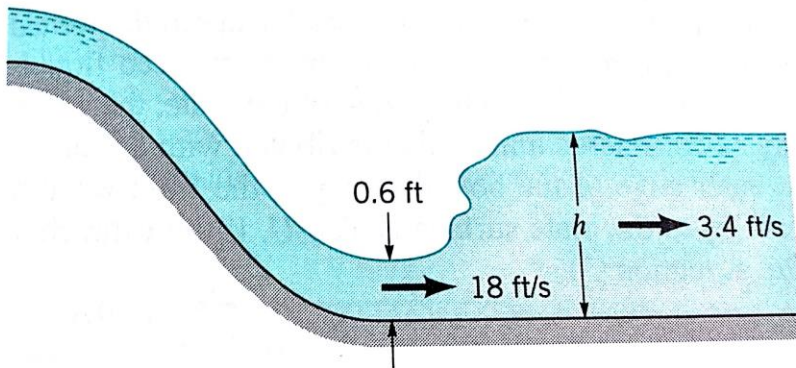

FIGURE P5.12
5.12 A hydraulic jump (see Video V10.10) is in place downstream from a spillway as indicated in Fig. P5.12. Upstream of the jump, the depth of the stream is 0.6 ft and the average stream velocity is 18 ft/s. Just downstream of the jump, the average stream velocity is 3.4 ft/s. Calculate the depth of the stream, h , just downstream of the jump.